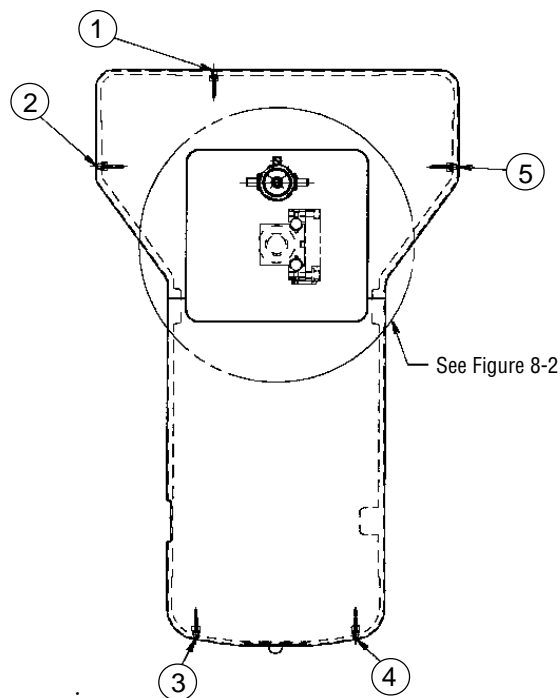

Figure 8-1. Bumper Positioning
1. If replacing the bumpers, apply Loctite 222 to the threads and assemble into the base casting as shown in Figure 8-1. Bumpers 1 and 2 should protrude $5/16" \pm 1/32"$ from the casting, and the other three should be flush with the casting.